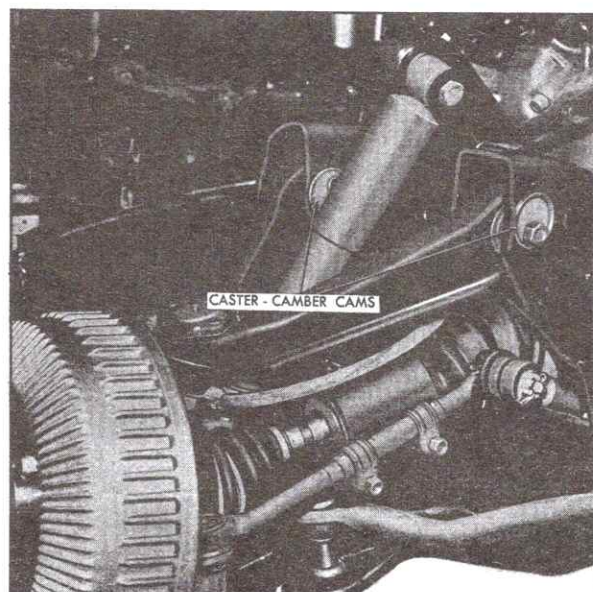

Fig. 3-45A Caster, Camber Cam Locations
6. Check camber and adjust if necessary. Camber is adjusted by turning the upper control arm rear cam bolt, Fig. 3-45A. Camber should be  $-3/8$  to  $+3/8$  with a preferred setting of 0.
7. Check caster and adjust if necessary. Caster should read  $-2^\circ \pm 1/2^\circ$ . Caster is adjusted by turning the upper control arm front and rear cam bolts, Fig. 3-45A. Wheels must be in straight ahead position. Use camber reading scale for making this adjustment.